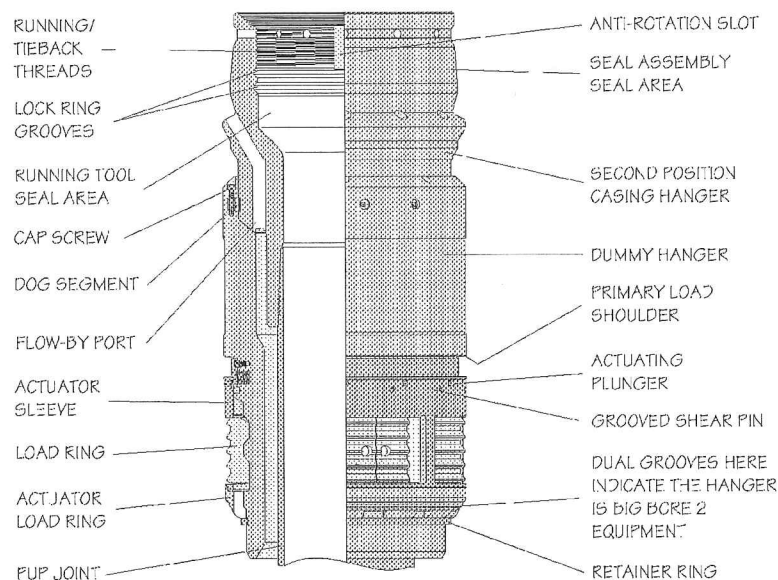

Figure 1. Typical Dummy Hanger and Casing Hanger.
1. Refer to **Figure 1** for identification of the Casing Hanger components. Remove the protectors that cover the Casing Hanger. Verify the Casing Hanger has dual grooves in the centralizer sleeve to indicate it is Big Bore 2 equipment. Clean the ID of the Casing Hanger.